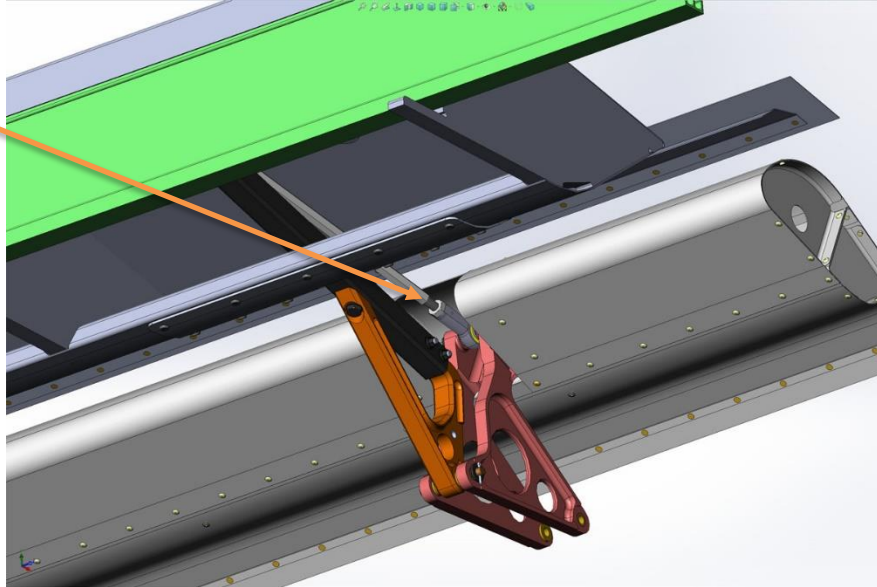

Figure 15: Vane push rod installed
23. Attach the new push rods (PSTOL-0042) to the vane element and to the bell crank rod end in the wing. The vanes come with rod end bearings already pre-installed on the inboard vane hanger. See Figure 15. Repeat on other wing.